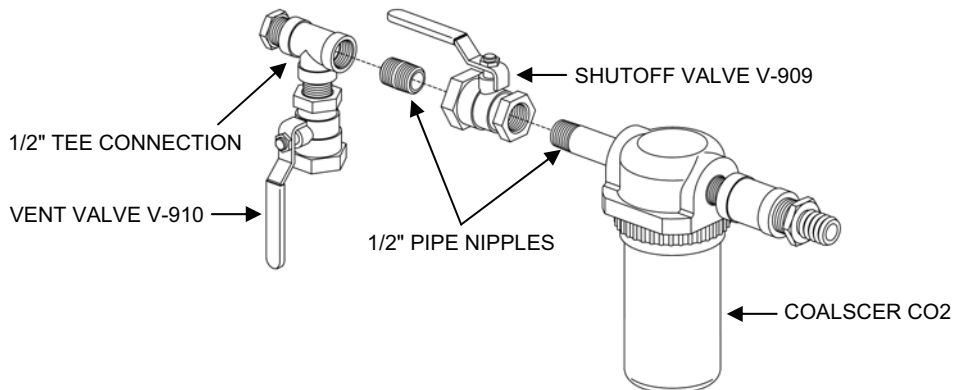

Figure 12. Shutoff Valve V-909.
3. Disconnect Shutoff Valve V-909 from the 1/2" pipe nipple that connects the shutoff valve to the coalescer (see Figure 12).
- c. Refer to Figure 12 for the correct positioning of Shutoff Valve V-909.